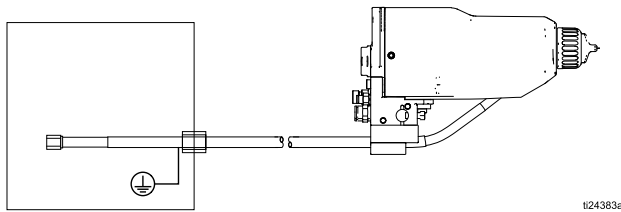

FIG. 9. Shielded Fluid Hose Connection at Non-Graco Isolation Enclosure
- Connect the other end of the fluid hose to the fluid outlet of the isolated fluid supply. See FIGURE 9